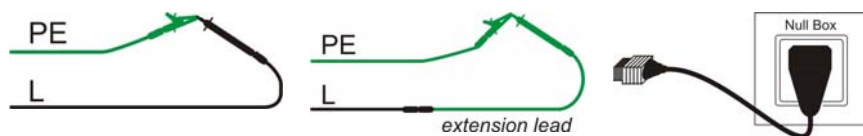

Figure 5.1: Shorted test leads
- ❑ **Connect** test cable to the instrument and short the test leads together appropriately (see figure 5.1).